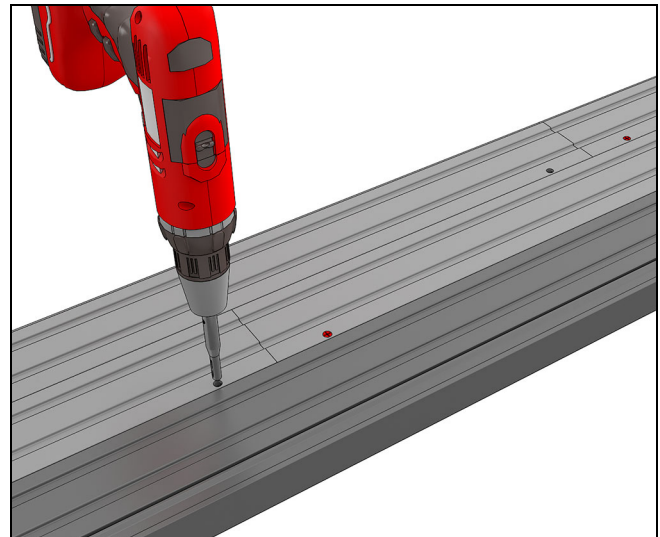

Figure 37
8. Drill pilot holes through the pre-drilled holes (found near the splice areas) using a 1/8" (3) Vix (self centering) drill bit. The depth cannot exceed 1/2" (13) deep. See Figure 37.